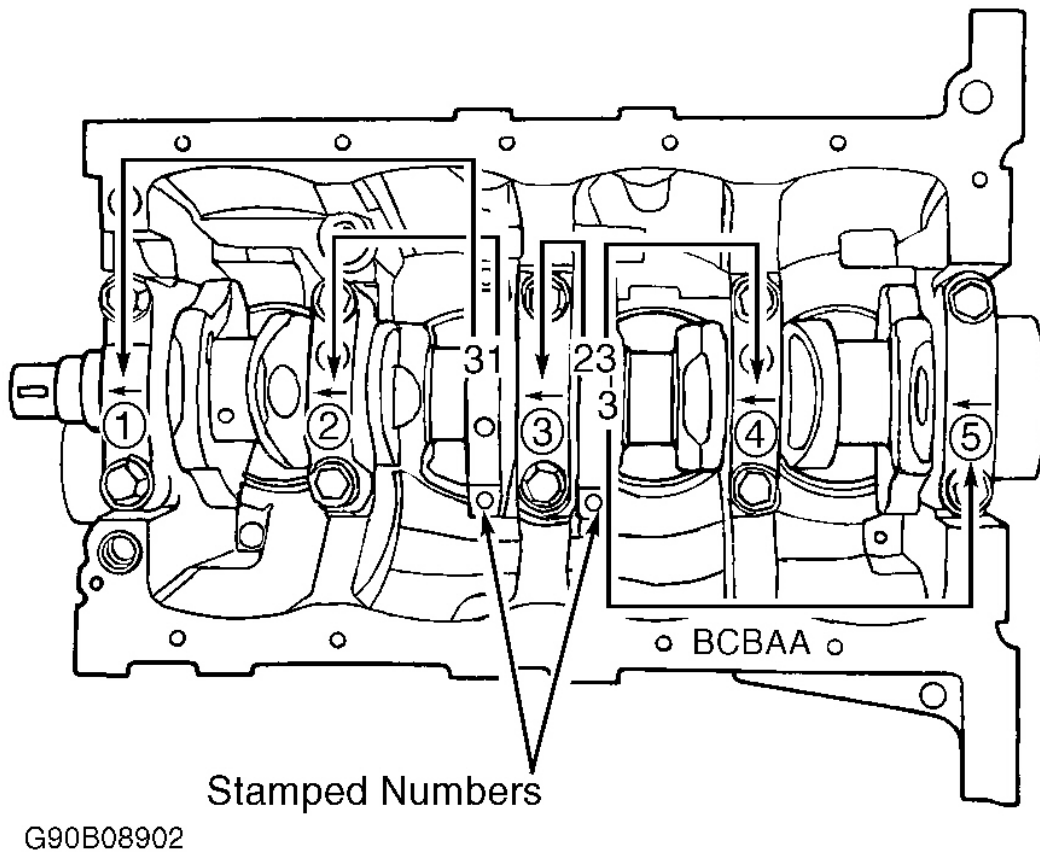

Fig. 18: Locating Numerical Marks On Crankshaft Webs (SOHC)
6. Main bearing journal diameter is determined by numerical mark ("1", "2" or "3") stamped on crankshaft webs of cylinders No. 2 and 3. See **Fig. 18**.